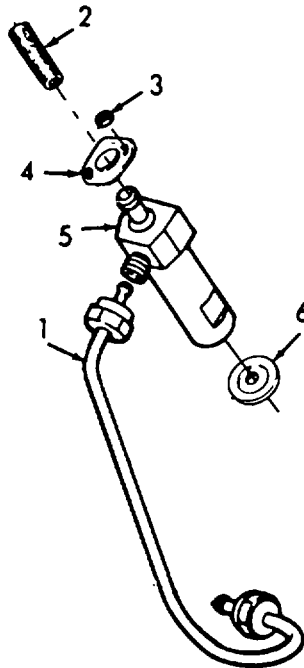

Figure 5-4. Fuel Injector Removal.
- a. Removal. (Refer to figure 5-4).